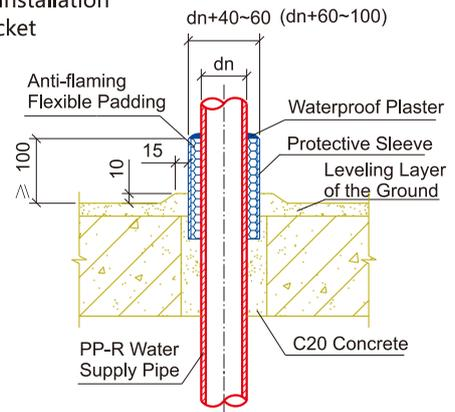

Fig.9 Pipe Crosses Concrete in the Basement
2.2 Pre-bury the steel waterproof sleeve when the pipe crosses the concrete wall in the basement. The construction details have been showed in figure 9.